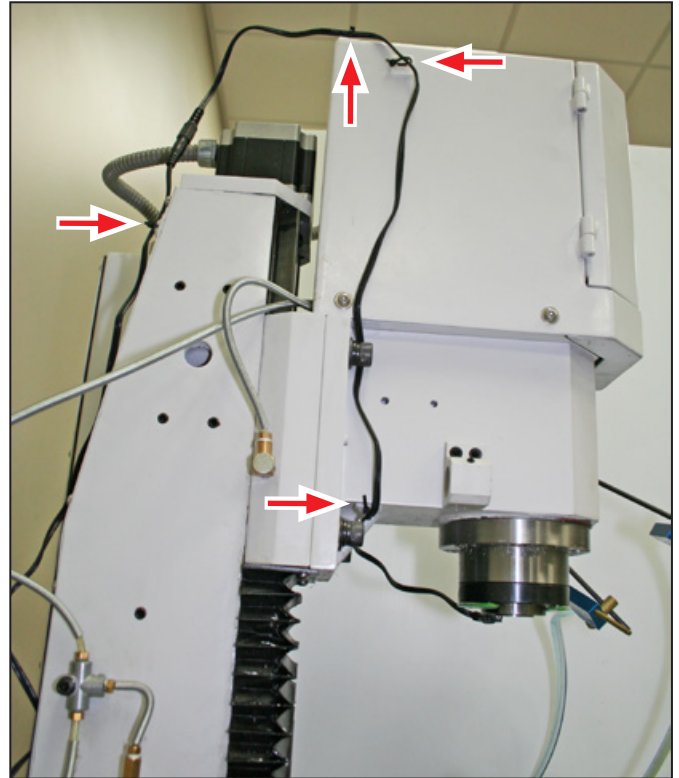

Figure 5
3. Clean spindle nose with Alcohol Wipe and attach spindle light (see **Figure 5**).
4. Connect three electrical cords together and plug into spindle light (see **Figure 5**).
6. Use Cable Ties and Mounting Pads as necessary to secure cord in locations shown in **Figure 5**; plug into a power strip (not included).